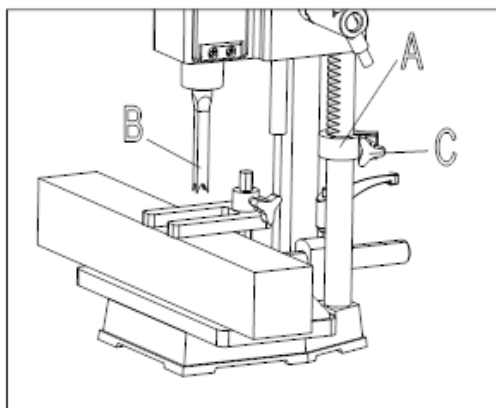

Fig. 11
A depth stop guide (A) Fig. 11, is provided to limit the depth of the chisel (B). To adjust the depth stop guide (A), loosen screw (C) and lower head (F) until the chisel (B) is at the desired depth. Lower depth stop guide (A) until